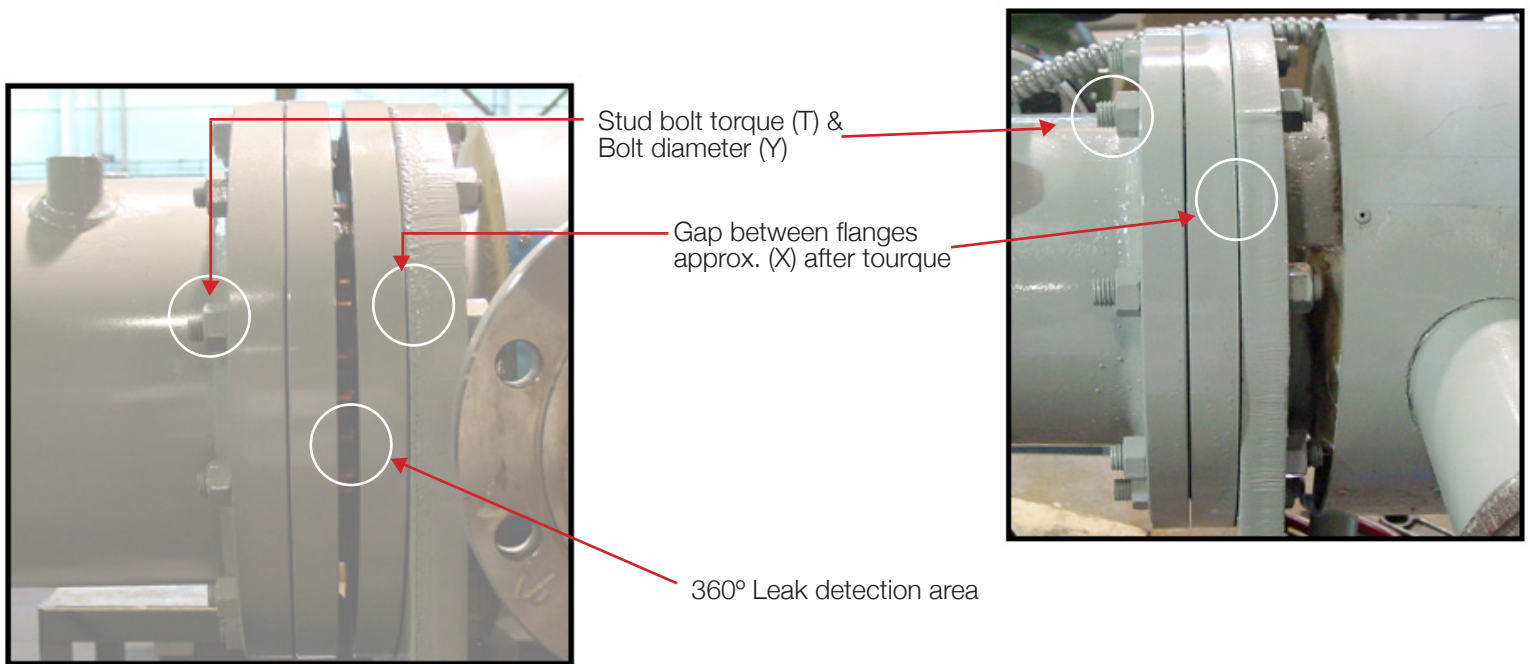

Figure 1.1 Shell flange to bonnet flange joint
**Stud Nuts:** During shipment, the bonnet and shell flange nuts may loosen and should be re-tightened before start-up. Tighten these nuts to the torques specified later in this manual. After the unit has been in operation for a few days and periodically thereafter, check and retighten. Note: Bolting is independent on the bonnet and shell-side flanges through the use of a threaded tube sheet flange(s). Therefore, stud bolt nuts must be re-tightened on both sides. See Figure 1.1 for single-wall bolting arrangement and Figure 1.2 for double-wall bolting arrangement.